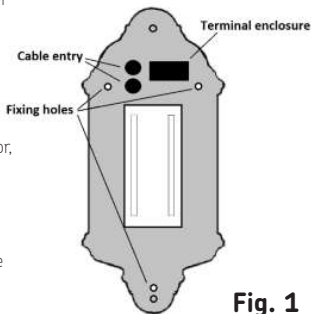

Fig. 1
- Feed the mains cable through one of the rubber grommets to retain IP rating, and secure the baseplate to the surface using the plugs and screws provided (see Fig. 1)